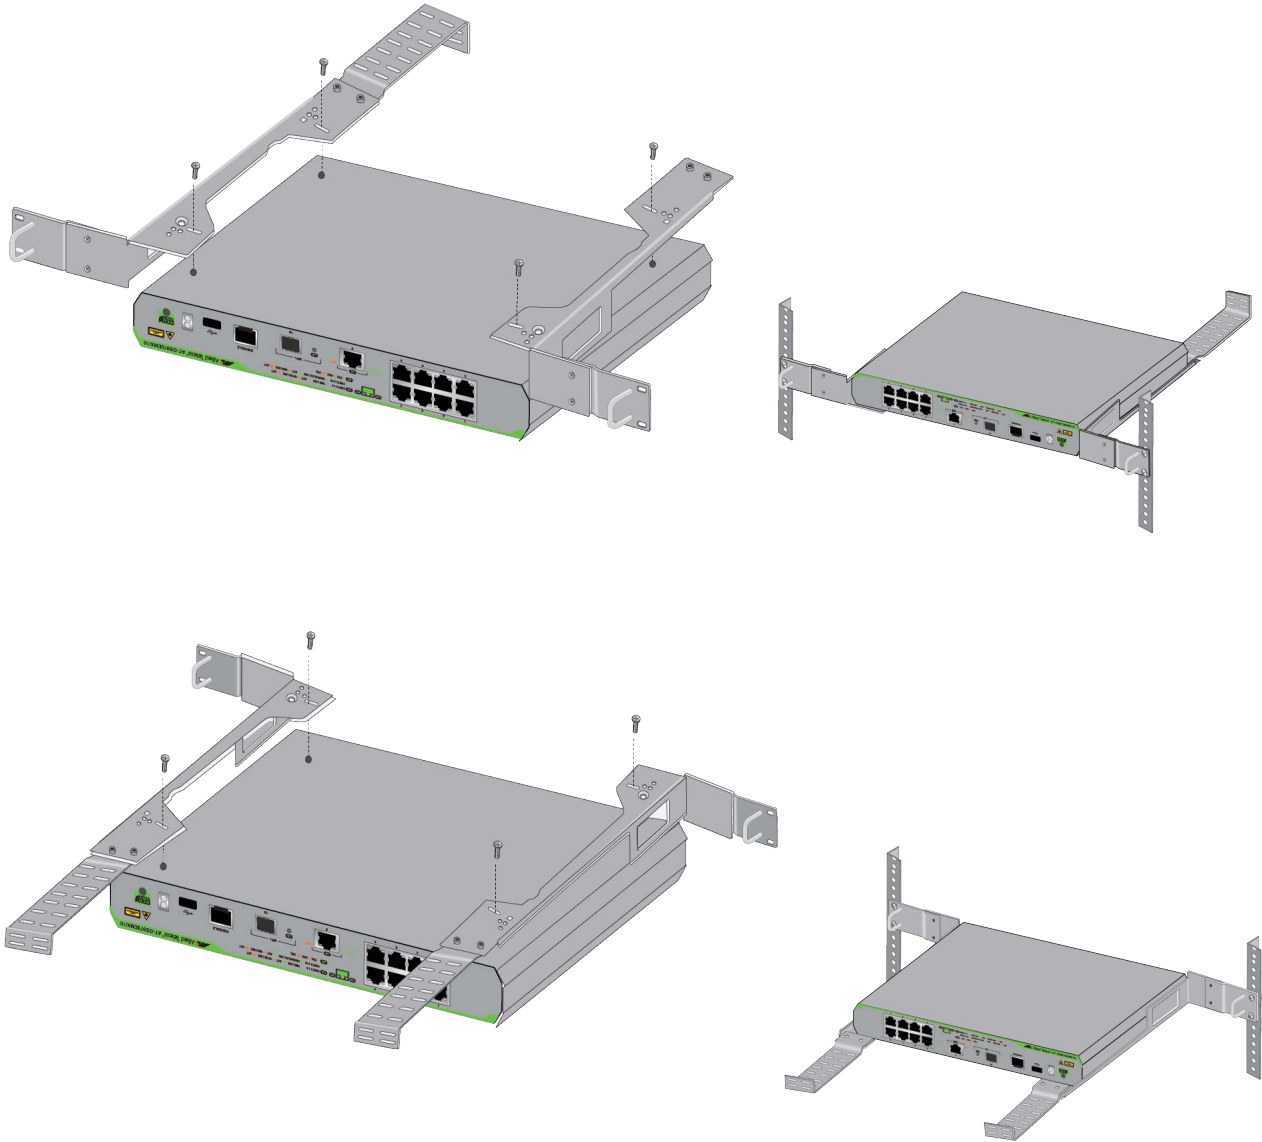

Figure 33. Attaching the RKMT-J05 Brackets to the Switch
6. Attach the brackets to the bottom panel of the switch. Refer to Figure 33.